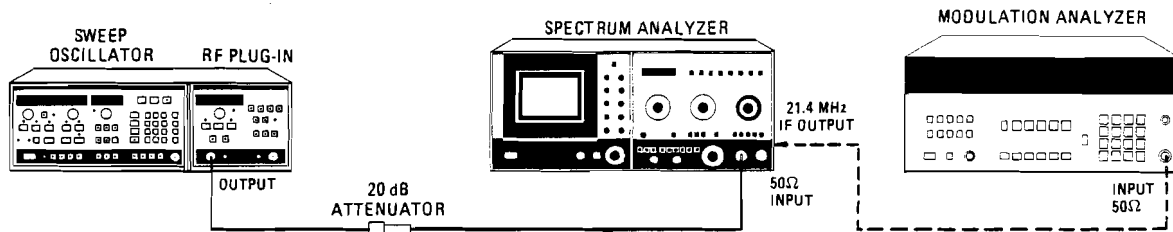

Figure 4-7. Residual FM Test Setup
1. Connect equipment as shown in Figure 4-7.